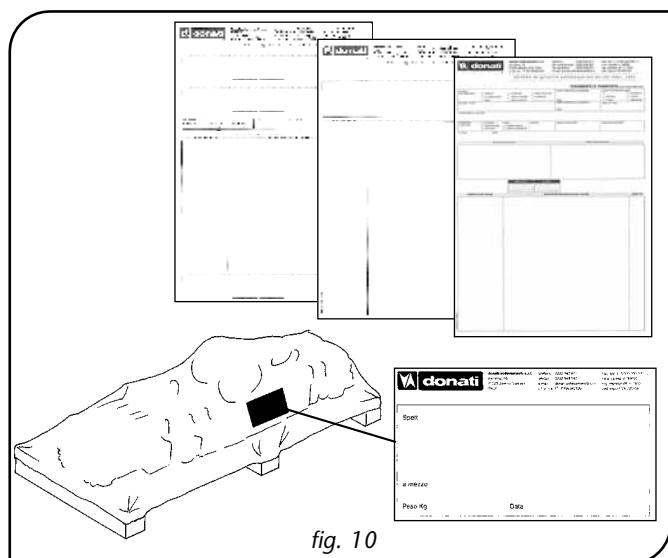

fig. 10
- The despatch data (receiver's address no. of items, no. of order, etc.) correspond to the accompanying documentation (transport documents and/or related packing-list) (fig. 10).